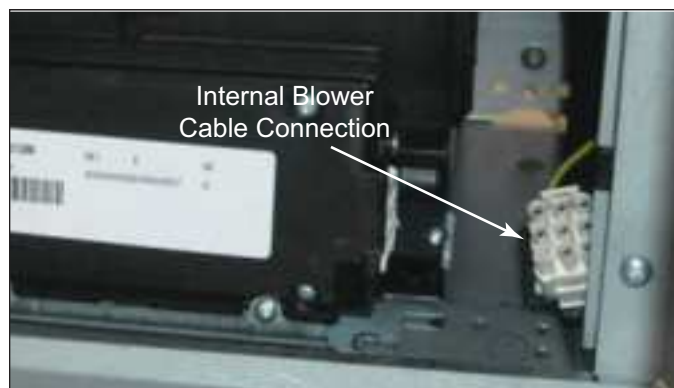

Figure 4-11. Internal Blower Cable Connector
- Disconnect Internal Blower Cable connection from Internal Blower. (See Figure 4-11).